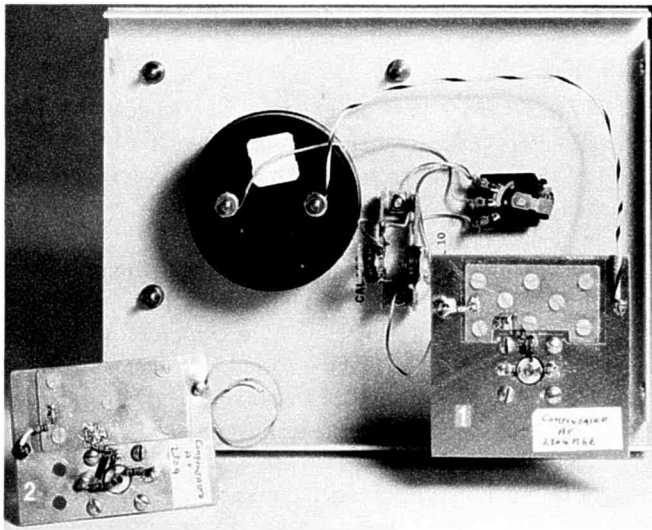

Fig 3—The K6UQH Milliwattmeter can be used with two different detector heads, labeled 1 and 2 in the photo. See text.
Fig 3—Top view of the circuit board (A). Part placement is not critical, with the exception of C1 and C2 (B). All leads should be kept as short as possible. Connector mounting detail is shown in C.
Fig 3 shows two different "detector heads." Detector head no. 1 is made with the most readily available parts. Note the circuit-board shim used to keep the Type-N fitting flush with the parts side of the single-sided, 1/16-inch circuit board. Also note the "carry-through" shim strips from the ground plane to the Type-N connector.